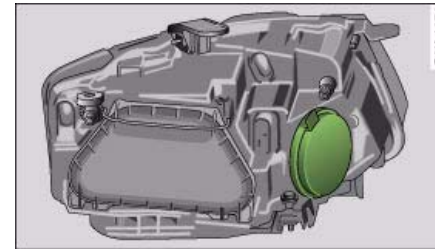

Fig. 260 Headlight unit: Rubber cap is highlighted
- Take off the rubber cap ⇒ fig. 260 ⇒ ⚠ in “Changing bulbs” on *page 276*.